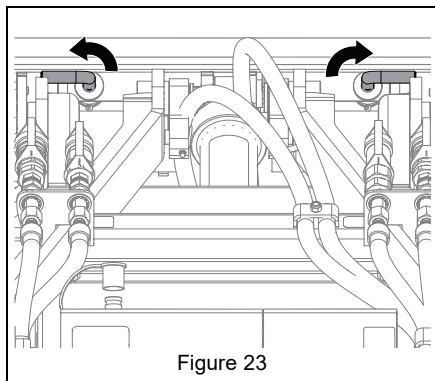

Figure 23
1. Rotate lock pins to unlock position (handles pointing outward). See Figure 23.